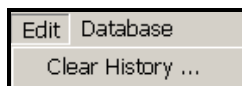

Figure 19. Database | Create History Dialog | Edit Menu
In Figure 19 , the **Edit** menu on the **History** dialog has only one (1) choice discussed below.